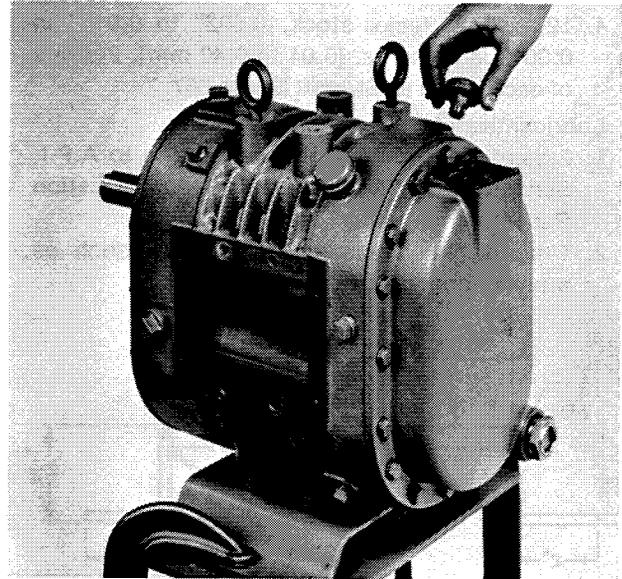

FIGURE 7
- b. Remove the 2 breather caps from the gear end plate (7) (see Fig. 7).
- d. Remove the 14 thru-bolts (4) and 2 cap screws (5) from the gear end cover (1).
- e. Remove the gear cover (1) from the gear end plate (7).